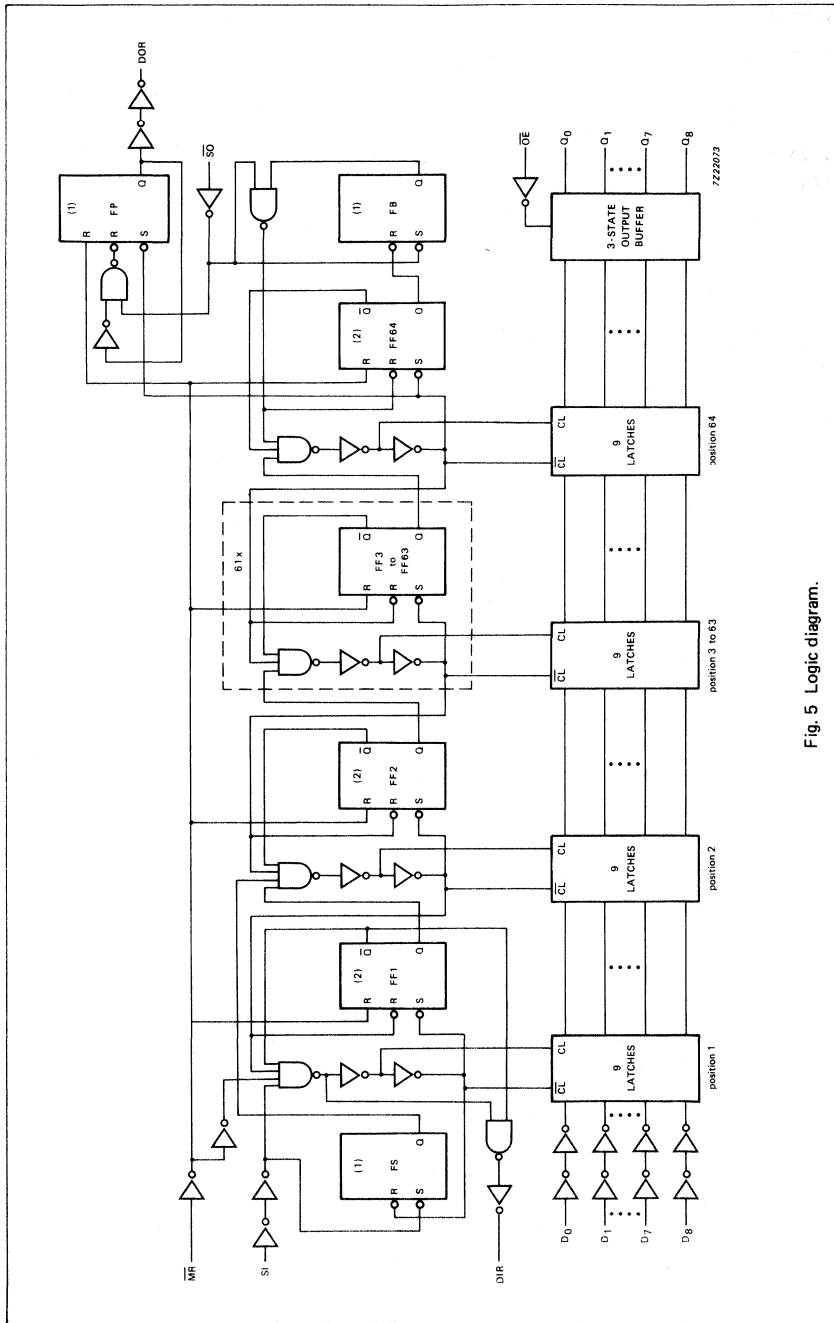

Fig. 5 Logic diagram.
**Notes to Fig. 5 (see control flip-flops)**